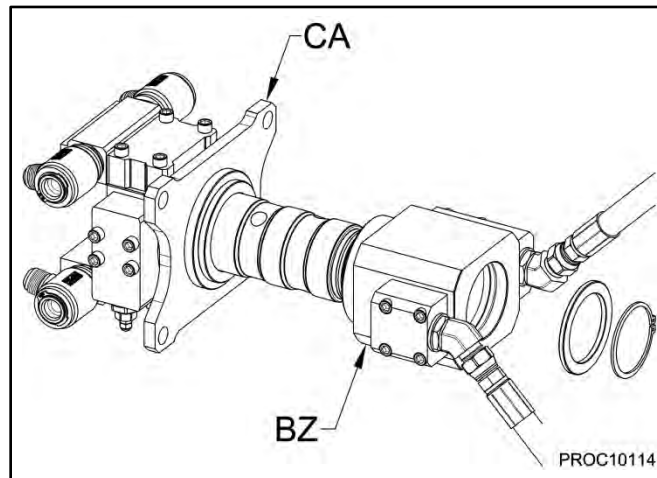

Fig. 1
The swivel manifold assembly is located between the top bracket, which is pinned to the carrier, and the M35 processor frame that rotates. Hydraulic oil for both the open and close operations of the M35 processor pass through this manifold. The swivel manifold assembly consists of two main parts, the “**Spindle Case**” (BZ), which contains the oil seals, and the “**Spindle**” (CA), which rotates with the M35 processor frame (see **Fig. 1**).